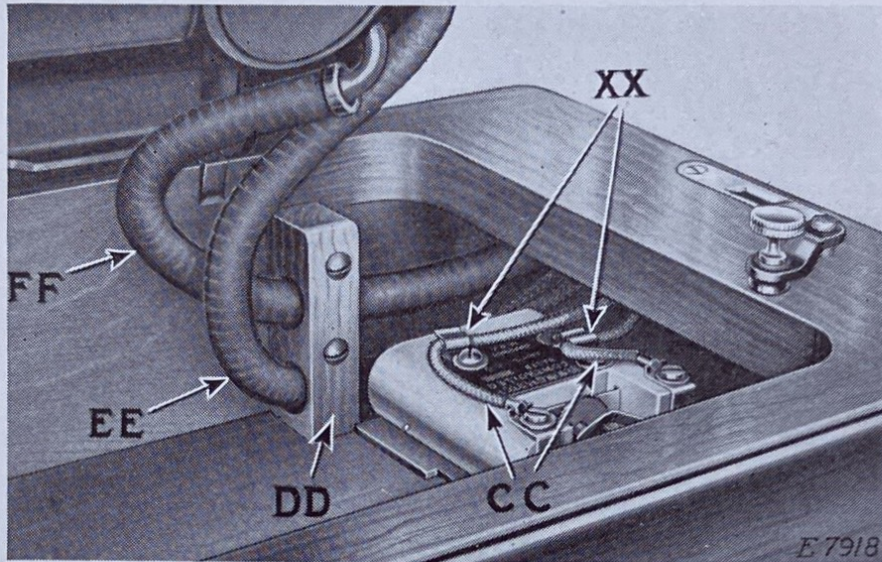

FIG. 16. ELECTRICAL CONNECTIONS OF PORTABLE SET 204
Pass the flexible conduit (FF, Fig. 16) with the two Singerlight leads, through the upper hole in the wooden support (DD, Fig. 16) and back of the controller. Pass the flexible conduit (EE, Fig. 16) with the two motor leads, through the lower hole in the wooden support (DD) and back of the controller. Place the two controller leads (CC, Fig. 16) in the two cleats (XX) as shown in Fig. 16. Then pass the ends of the six leads through the opening which retains the three-pin terminal block in the right end of the cabinet.